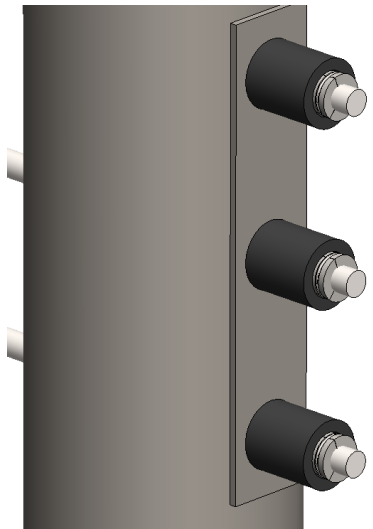

Figure 18
- See Figure 18.
Cables are tensioned to Terminal End Posts using a special anchorage tool (KM22-1860) (Fig. 18, 19)